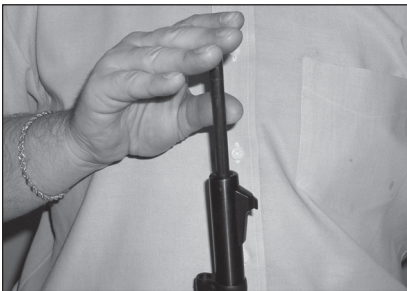

Figure 5
13. With ramrod, push projectile down on top of powder, firmly, but without crushing the powder or pellets. (See Figure 5).